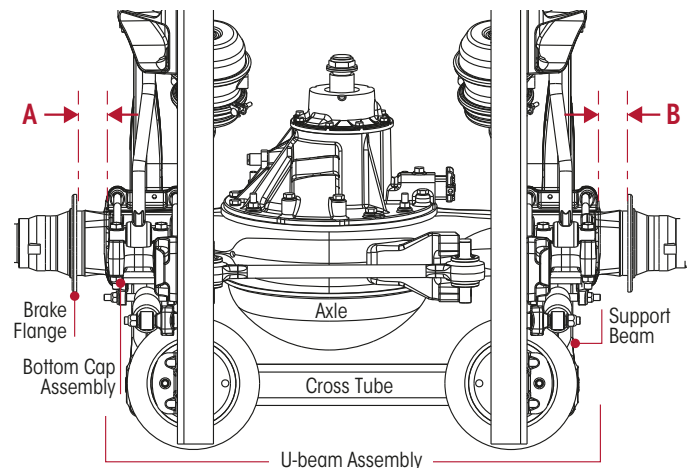

Figure 115: Centre U-Beam Assembly on Axle – Top View
5. Centre the U-beam assembly and the bottom cap assembly on the axle ($A = B \pm 3 \text{ mm}$). Refer Figure 115.